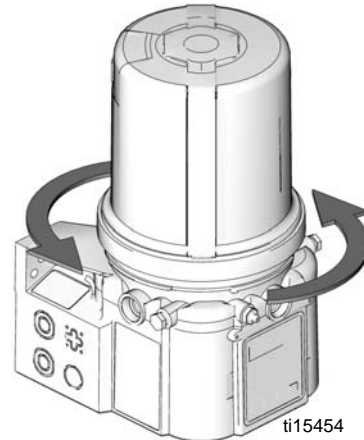

FIG. 2
2. Use a strap wrench around reservoir. Turn reservoir 1/4 counter-clockwise to loosen reservoir (FIG. 2).